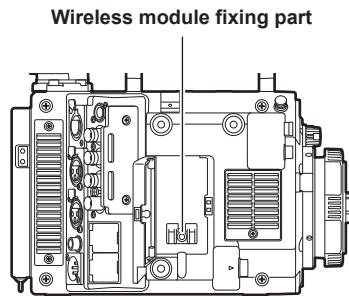

Fig. 2
- 2** Remove the wireless module fixing part from the camera. (Fig. 2)